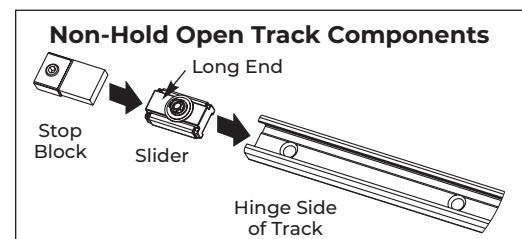

Figure 4
1. Slide track components into track. (Figure 4)